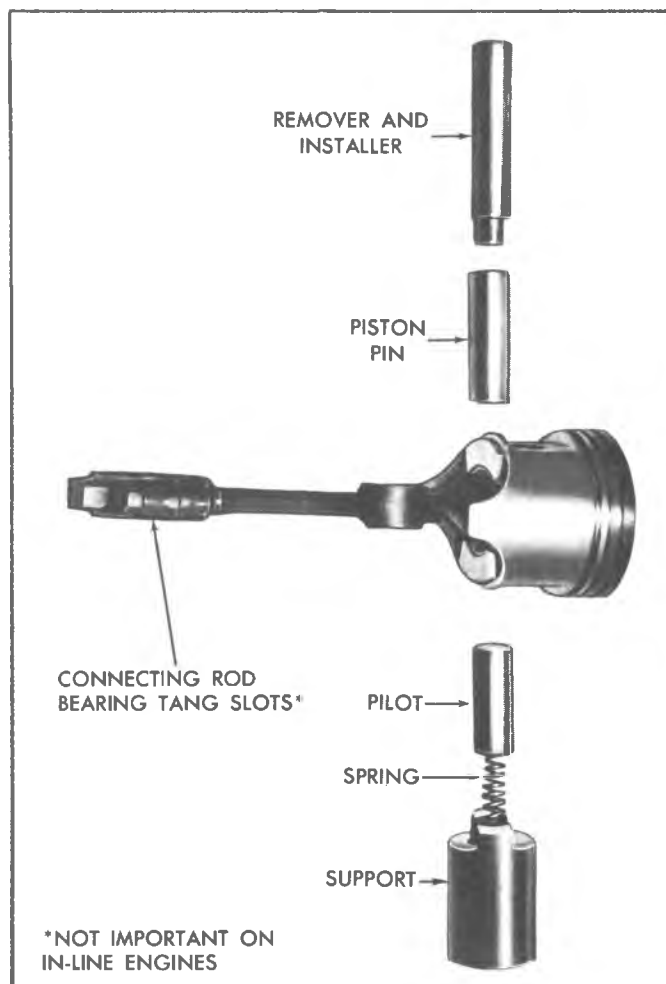
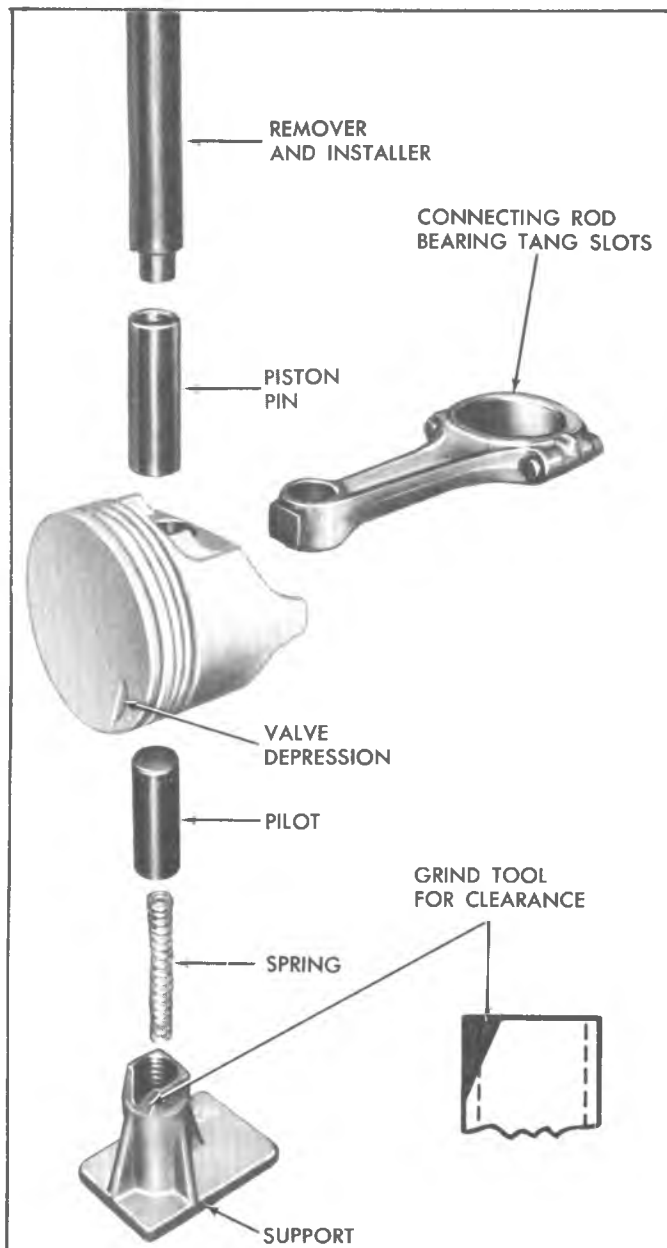

Fig. 52—Piston Pin and Tool Layout (In-Line and "Small V8")
Fig. 53—Piston Pin and Tool Layout ("Mark IV V8")
2. Using Tool J-9510 for In-Line and "Small V8" (fig. 52) or Tool J- 6994 for "Mark IV V8" (fig. 53) place Support with spring and pilot in place on an arbor press.
3. Position piston on connecting rod with appropriate side of piston (fig. 55) and connecting rod bearing tangs aligned (fig. 52 or 53).